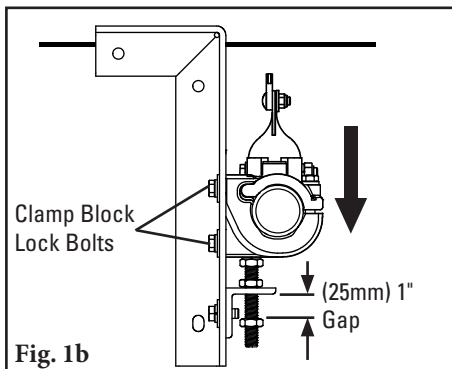
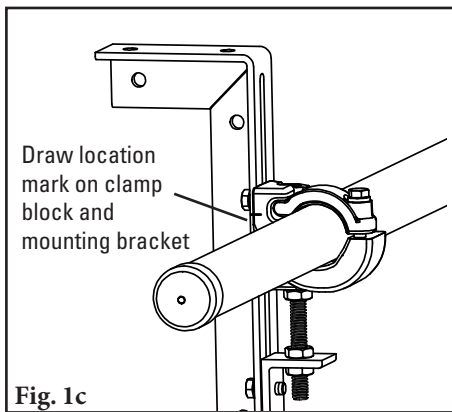
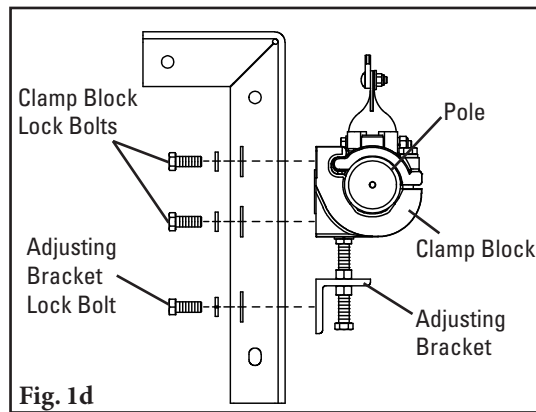

Fig. 1b
Fig. 1c
Fig. 1d
For chute mounting: For a chute installation a belt location line must first be established. Draw a line on the chute replicating this location. If head pulley and snub pulley are close, it may be necessary to assume an approximate belt line between the two. In the determined location draw a line perpendicular to the belt line. Make a mark on this line 175mm (7") below belt location line (Fig. 1b). Locate a mounting bracket along this line allowing the centerline of the clamp block to align with this 175mm (7") mark (Fig. 1c). To move the clamp blocks, if necessary, loosen the clamp block lock bolts and the adjusting bracket lock bolt and move the clamp block to a position where the center of the hole is 175mm (7") below the bottom of the belt. Bolt or weld in place. Repeat this step on the opposite side. On one side an access hole may be required (Fig. 1d). **NOTE:** The brackets must be aligned perpendicular to the belt.
- b. Loosen the clamp block lock bolts on both sides and allow the pole to move down and rest on the raised top adjusting bolt jam nuts (Fig. 1b).
- c. Place location marks across the mounting bracket and the clamp block for quick positioning after blade replacement (Fig. 1c).
- d. Remove the clamp block lock bolts and adjusting bracket lock bolts on each side and remove the pole with the clamp blocks and adjusting brackets attached (Fig. 1d).